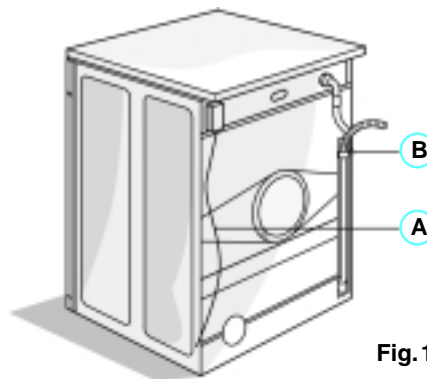

Fig. 1
1. Unhook the drain hose from the left clip; see arrow A in Fig. 1.
Do NOT loosen the drain hose connection; see arrow B in Fig. 1, otherwise there is the risk of leakage (danger of scalding with hot water).